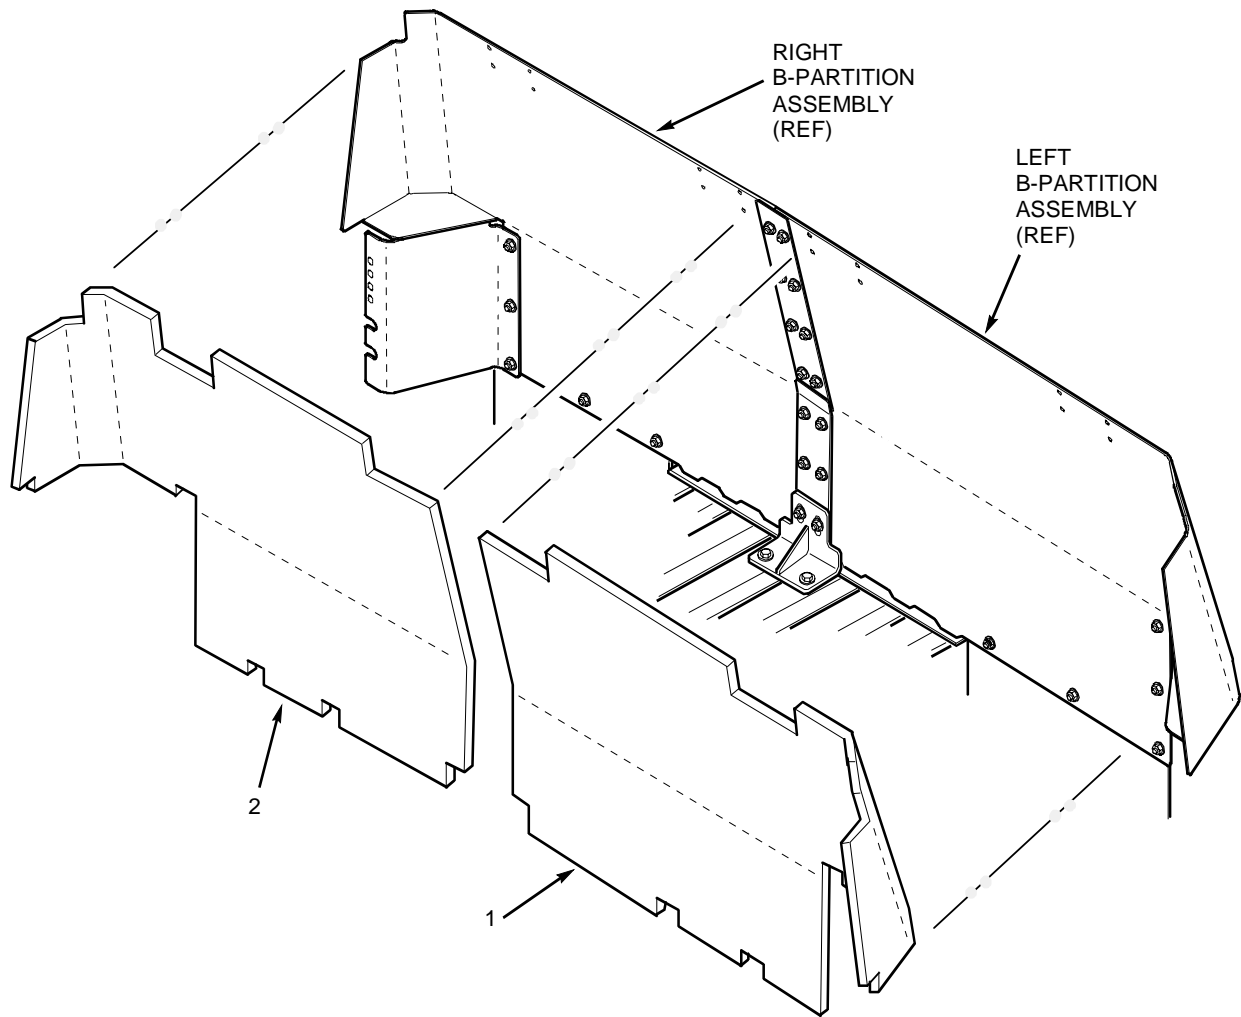

Figure 2-22. B-Partition Insulation Removal (2 Door Only)
5) Remove B-partition insulation as follows (see figure 2-22):